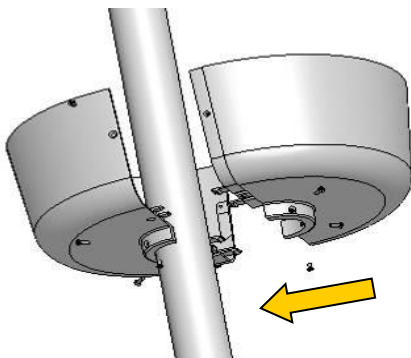

Figure 27
- To fit the cover, place both halves around the stem then carefully but firmly push together. See Figure 27